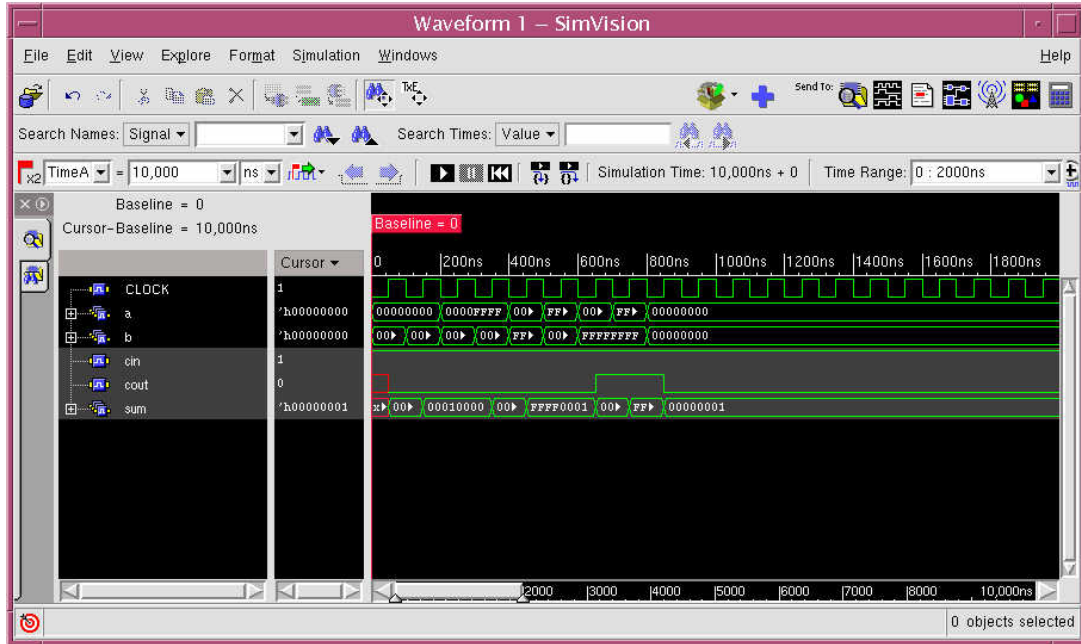

Figure 3-21 Displaying Data in the waveform window.
4. **Collapse** the sidebar by clicking on the **Collapse**  button. The Waveform window displays the signals and waveforms, as shown in figure 3-21. Signal names and values are displayed on the left; their waveforms are displayed on the right.